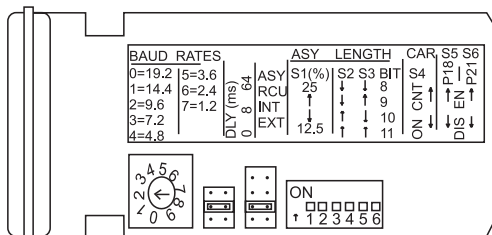

Figure 1. Strapping Diagram
2. Strap the modem according to mode (see *Tables 1 and 2 and Figure 1*):